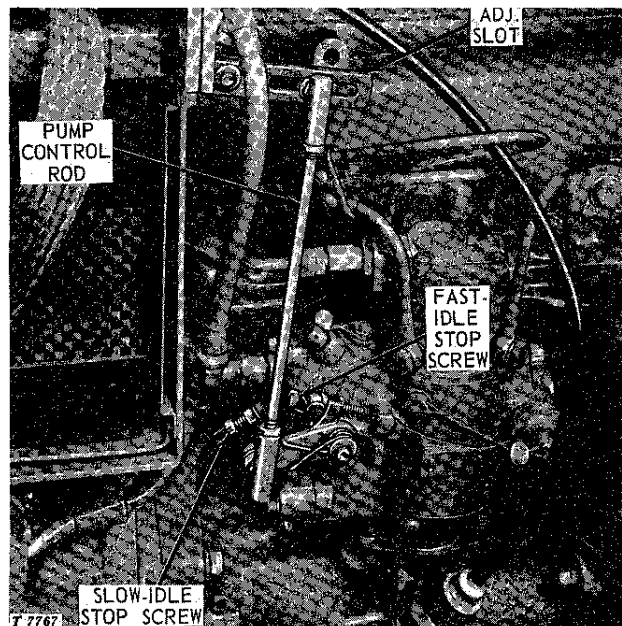

Fig. 40-10-18--Engine Speed Adjustments (Tractors Ser. No. 29001-Up)
1. Disconnect vertical control rod from injection pump (Fig. 40-10-18).